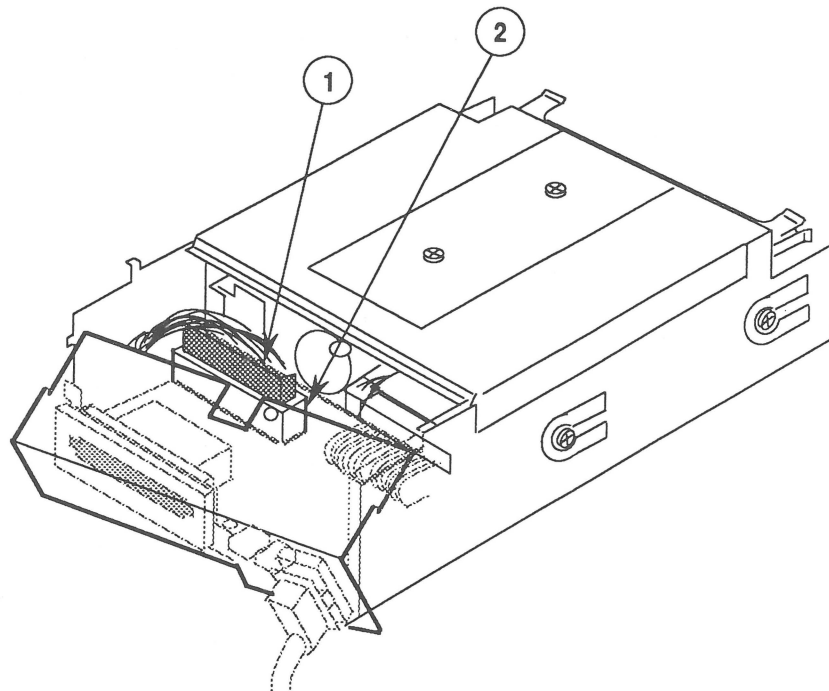

FIGURE 10
3. Carefully pull back the external drive cable shield, and disconnect the external drive cable (Figure 10, #1) from drive assembly connector CN101 (Figure 10, #2).
2. Position the external drive cable and shield near the drive assembly, and connect the external drive cable (Figure 10, #1) to the drive assembly connector CN101 (Figure 10, #2).